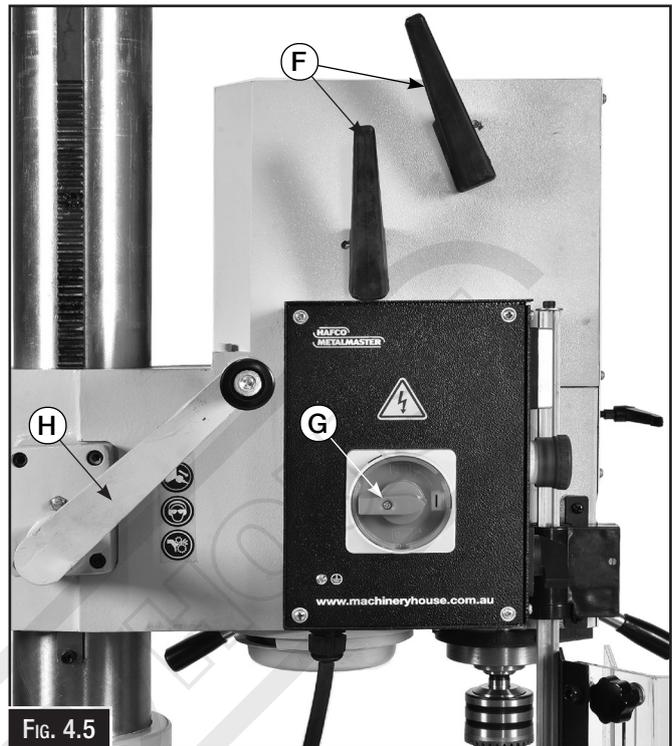

FIG. 4.5
- F. **Gearbox Speed Levers:** Sets the speed of the spindle gearbox (Fig. 4.5)